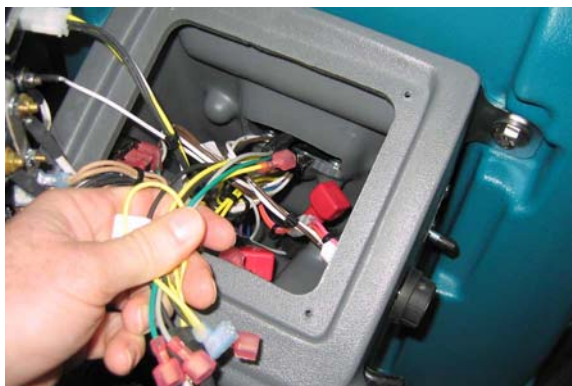

Fig. 16
1. Remove the upper control panel from the control console and locate the routed *ec-H2O* harness wires (Figure 16).